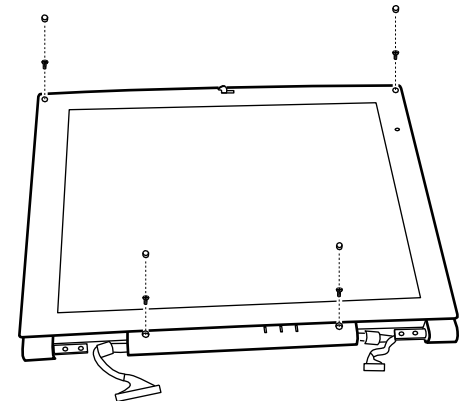

Figure 5-21. Removing the LCD Frame
2. Fit the LCD frame back to the housing and replace the four screws and rubber pads.(fig 5-21)
2. Place the LCD frame back to the housing.(fig 5-21,5-23)